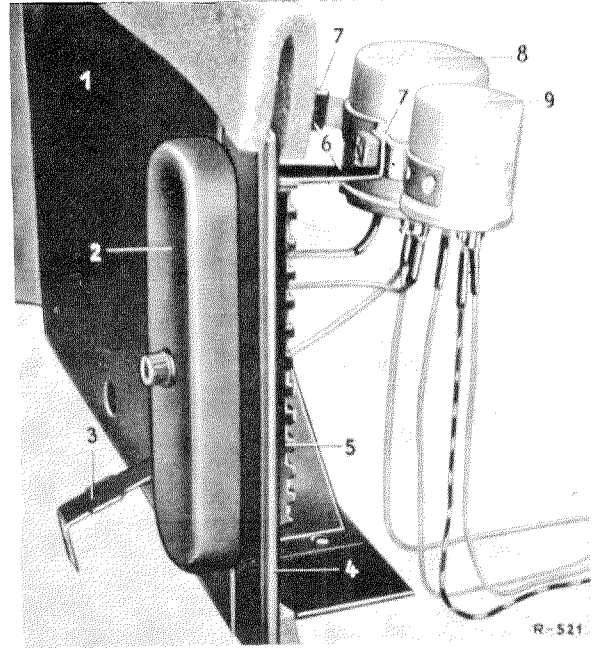

Fig. 54 — 16/1
1. Unscrew the left hexagon screw (7) behind the engine compartment panel (1) at the bracket (6) for the flash signal mechanisms.
2. Disconnect the electric cables and take out the flash signal mechanism (9) (see Fig. 54 — 16/1).
1. Unscrew the two hexagon screws (7) behind the engine compartment panel (1) at the bracket (6) for the flash signal mechanisms (see Fig. 54 — 16/1). Remove the two flash signal mechanisms (8) and (9).
**Note:** The flash signal mechanism (8) for the headlight upper beam flash signal system is connected to the bracket (6) in the same way as the flash signal mechanism (9) for the flash direction signals.
2. Disconnect the electric cables from the upper beam flash signal mechanism (8) and take off the flash signal mechanism.
1. Remove the flash signal mechanism for the headlight upper beam flash signal system (see Section B and Fig. 54 — 16/1).